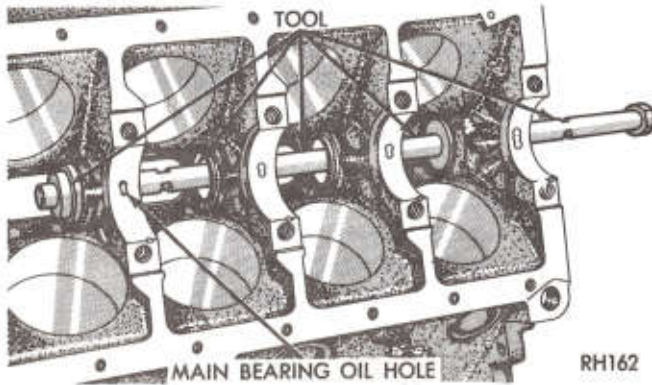

Fig. 34—Removal and Installation of Camshaft Bearings with Tool C-3132A
(2) Install proper size adapters and horse shoe washers (part of Tool C-3132-A) at back of each bearing shell to be removed and drive out bearing shells, (Fig. 34).